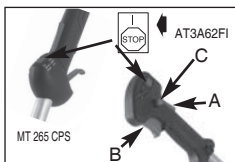

Fig. 9B
1. Press ON/OFF switch to the "RUN (I)" position (Fig.9B).
- 3b. For Bike handle "↖", set throttle lock (C): Press the lockout switch (A) down and then holding trigger (B) at partially open position, press down and hold throttle lock (C). Release throttle trigger (B). Throttle trigger (B) will now remain in the partially depressed position (Fig. 9B). (AT3A62FI)